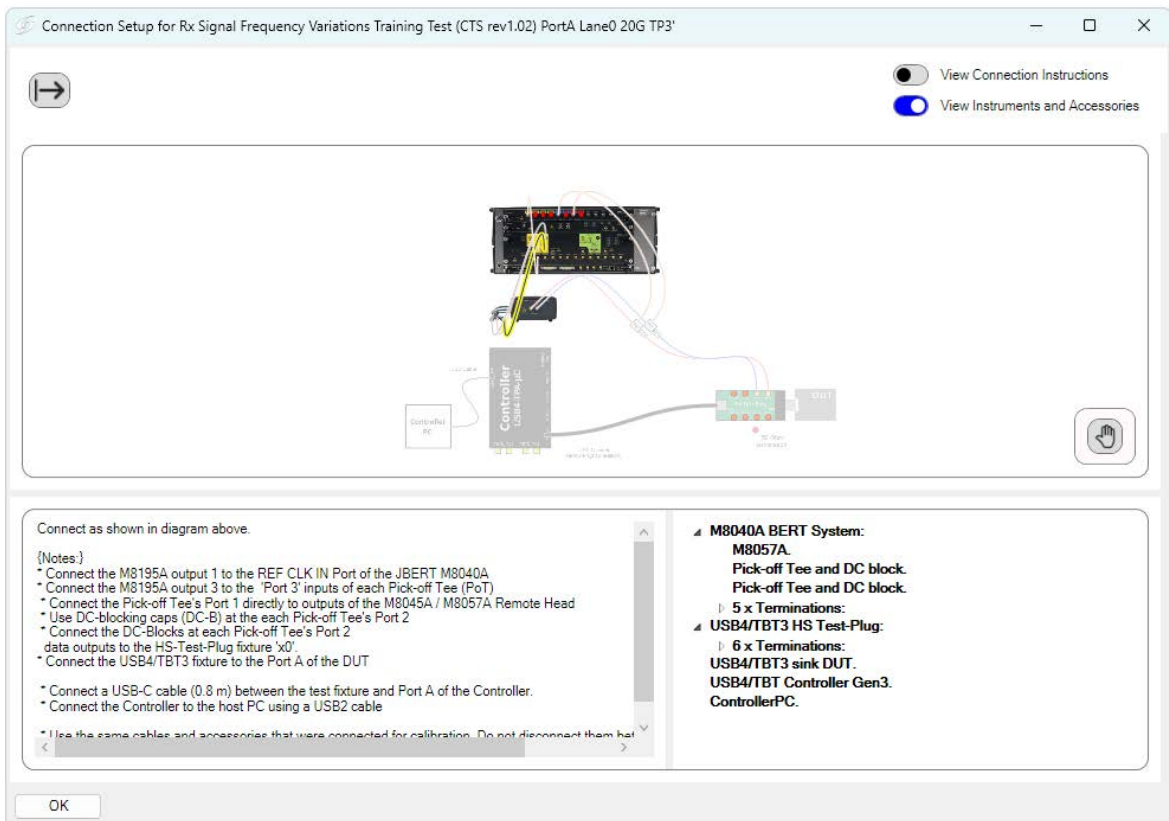

Figure 28 Connection diagram dialog – with Instruments and Accessories pane (example for USB4)
- 3 **Instruments and Accessories:** Toggle to ‘on’ to view the list of required instruments and accessories. If a description of how to connect the setup is available, this will be displayed as well (Figure 28).
In the Instruments and Accessories view (Figure 28), the lower pane contains